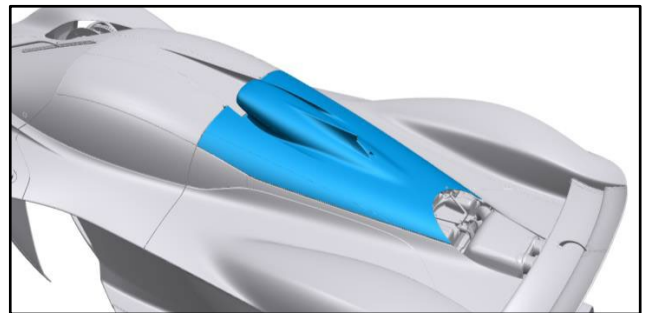

Figure 1
1. Open the engine cover panel and prop it open to access the engine bay (refer to Figure 1).